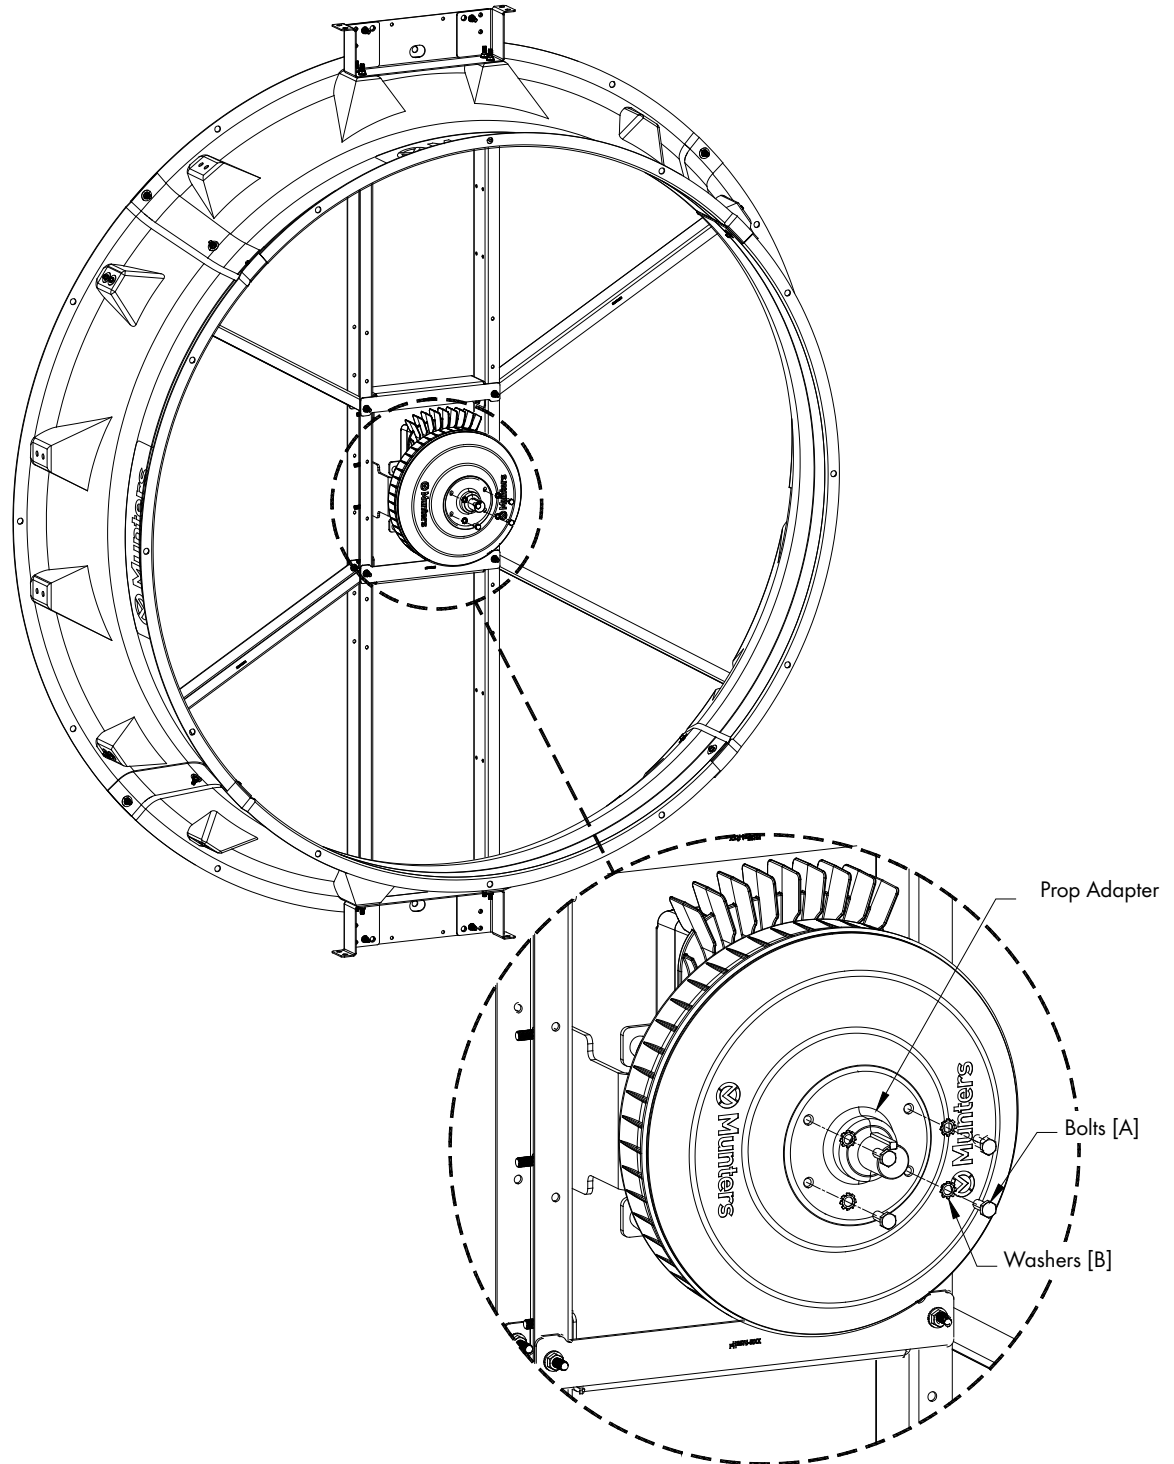

Figure 23
Attach the Prop Adapter removed in Step 18 to new Motor/Drive using (4) new Bolts [A] and Star Washers [B]. Tighten Bolts to 60 in-lbs. [6.8 Nm] of torque. See Figure 23.